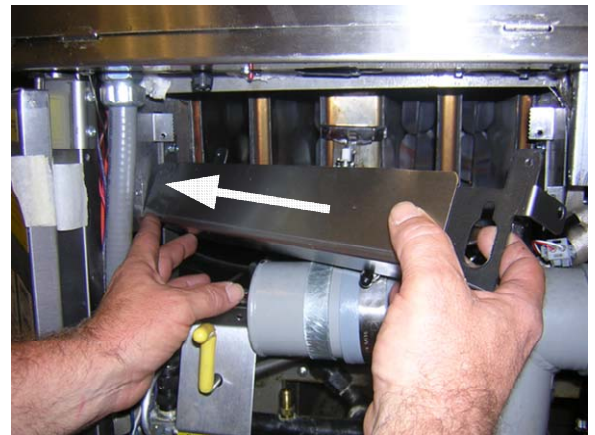

Figure 4: Start by inserting one end into the cabinet.
- A. Angle the brace (as shown in Figure 4) and slide one end into the space in front of the frypot.